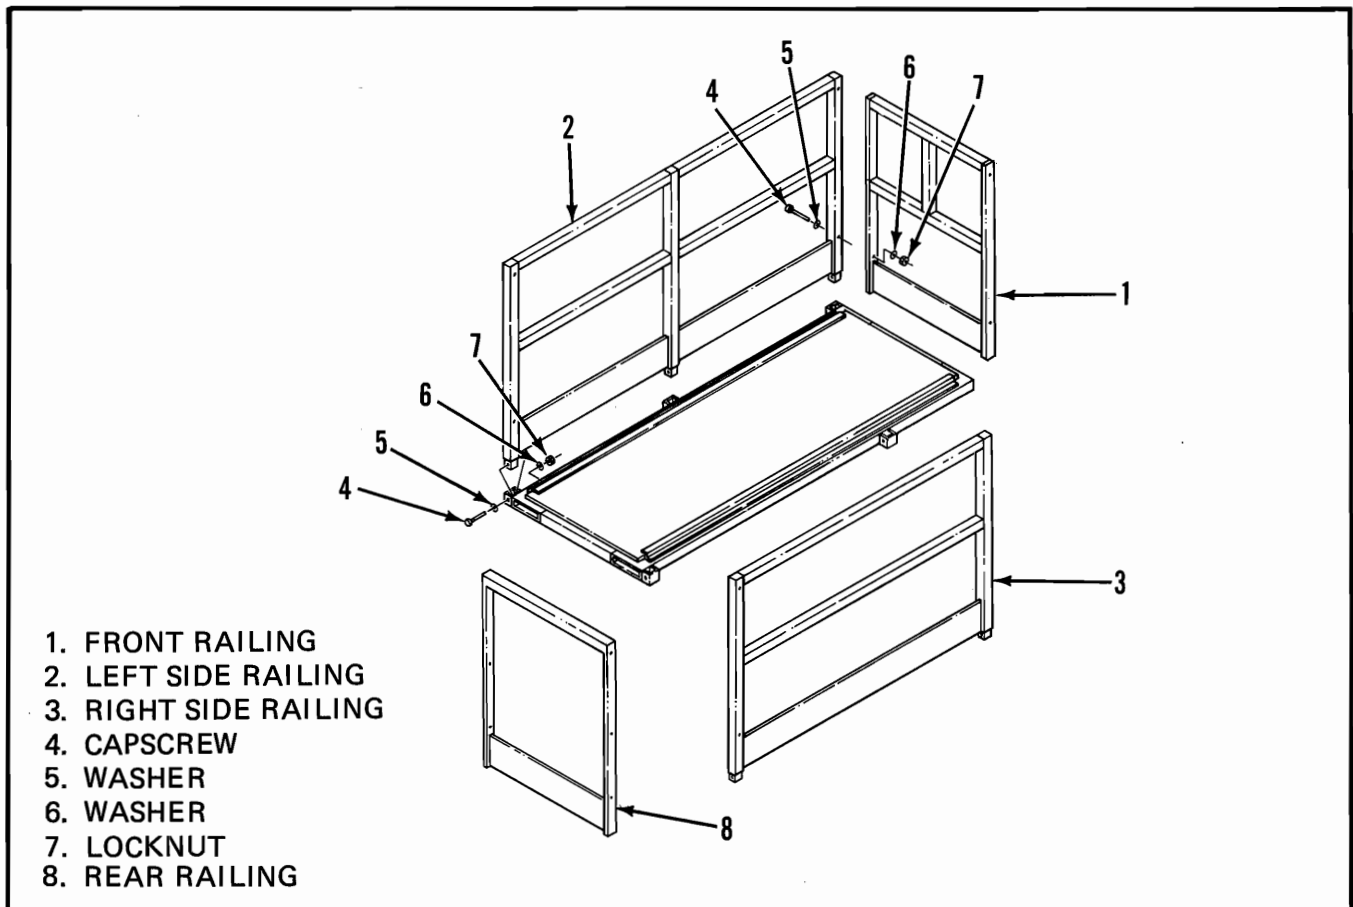

Figure 3-1. Railing Removal and Installation
- c. Refer to Figure 3-1 and install the railing assemblies (1, 2, 3 and 8) and secure with capscrews (4), washers (5 and 6) and locknuts (7).
- f. Refer to Figure 3-1 and remove all the locknuts (7), washers (5 and 6) and capscrews (4) then remove the railing assemblies (1, 2 and 3).